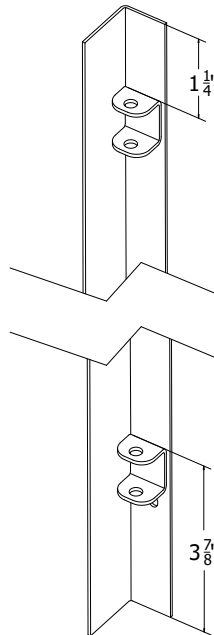

Figure 2
2. Starting from the point you selected in step B-1 place the first “wall support angle” against the wall. Make sure that you have the correct end at the floor. See figure 2.